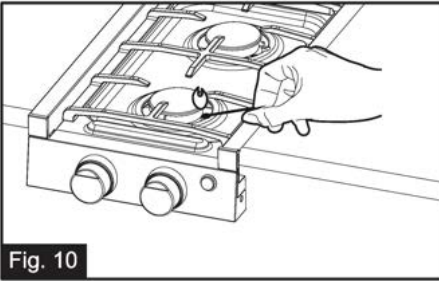

Fig. 10
4. IMMEDIATELY strike and place a lit, long wooden match or a butane Lighter with extension) through the spaces in the grate near the ports of the burner to light the burner. Repeat steps 3 & 4 to light all burners (Fig. 10)